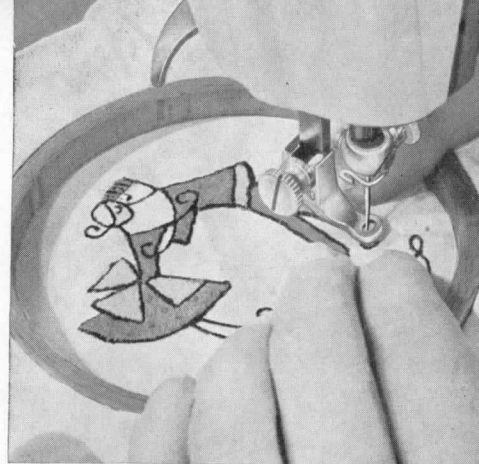

fig. 83
2. Remove normal foot and then fit the special darning foot (53) (see page 23)
6. The embroidery frame should be held as shown in Fig. 83, and moved around according to the requirements of the pattern.